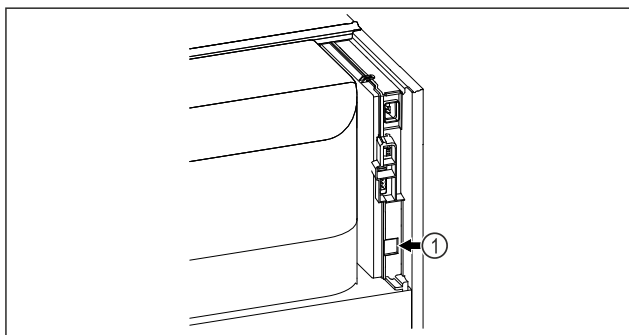

Fig. 131
- ❑ SmartModule Fig. 131 (1) is in use.